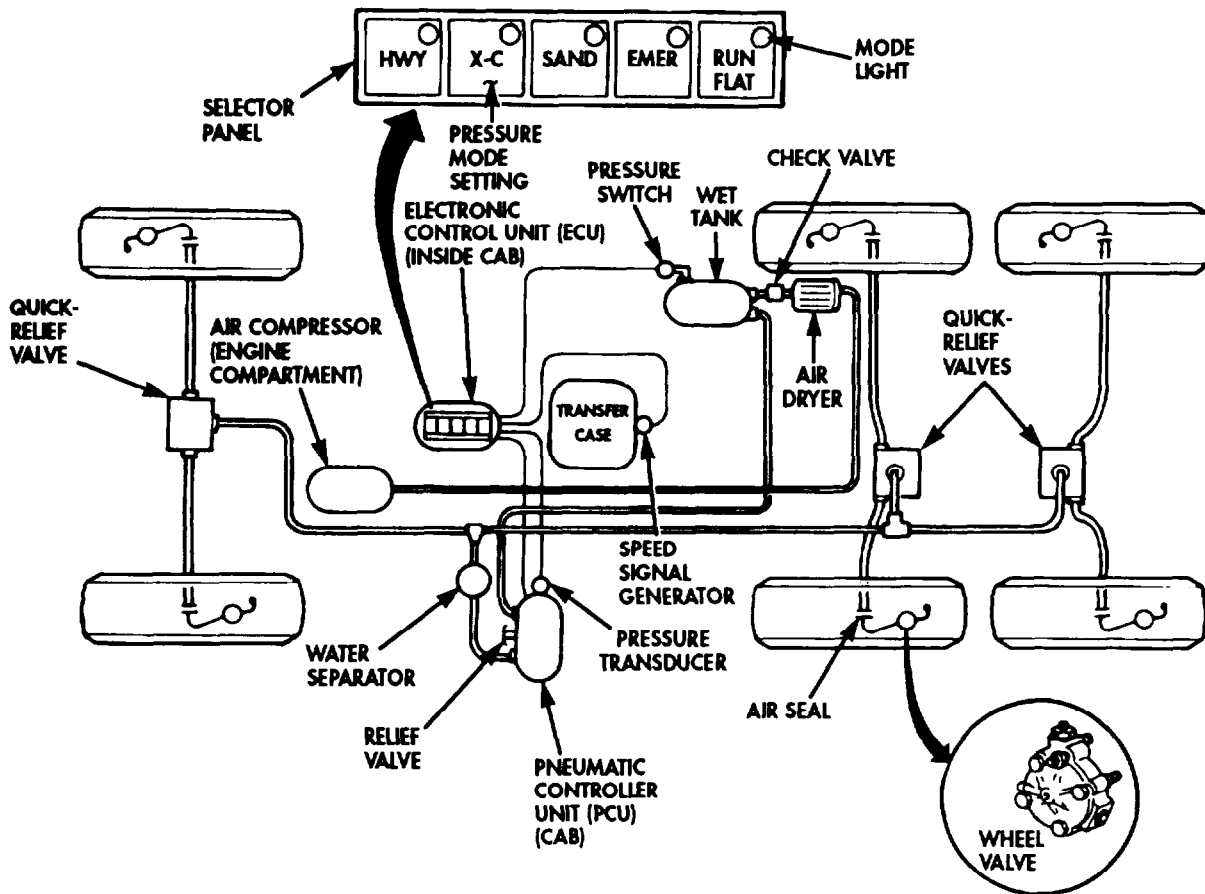

Figure 2-1. Functional Troubleshooting Diagram - Central Tire Inflation System (CTIS).
b. The Symptom Index, used in conjunction with the Functional Troubleshooting Diagram (Figure 2-1), is designed to direct the technician to the appropriate troubleshooting section where specific problems and solutions are listed.